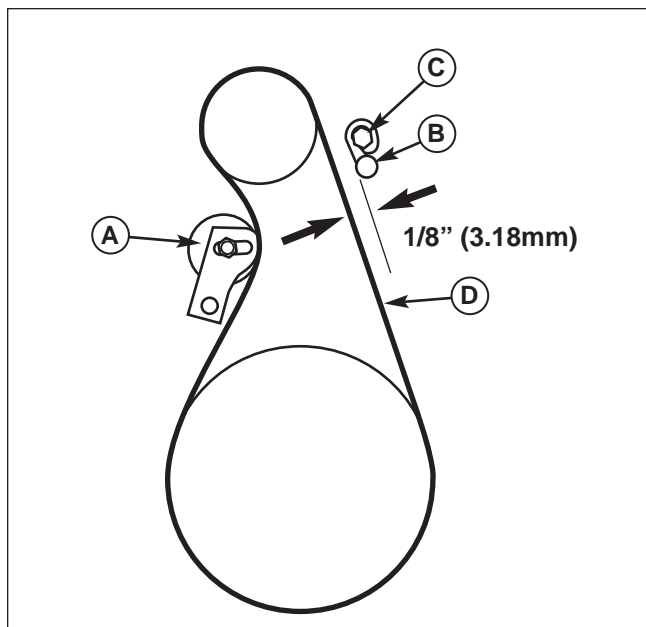

Figure 28. Belt Guide
3. Measure the distance between the belt guide (B, Figure 28) and the belt (D). The distance should be 1/8 inch (3.18mm).
4. If adjustment is necessary, loosen belt guide capscrew (C). Move belt guide (B) to correct position. Tighten capscrew (C).